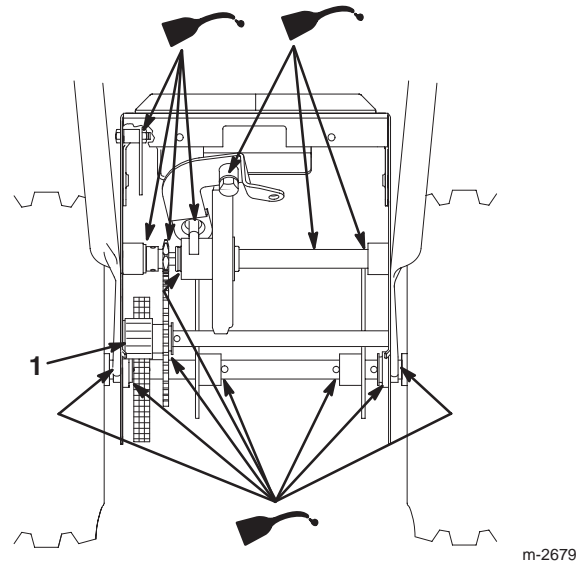

Figure 36
6. Lightly lubricate the snowthrower with light oil as shown in Figures 36 and 37.
8. Lightly grease the axle gear (Fig. 36).